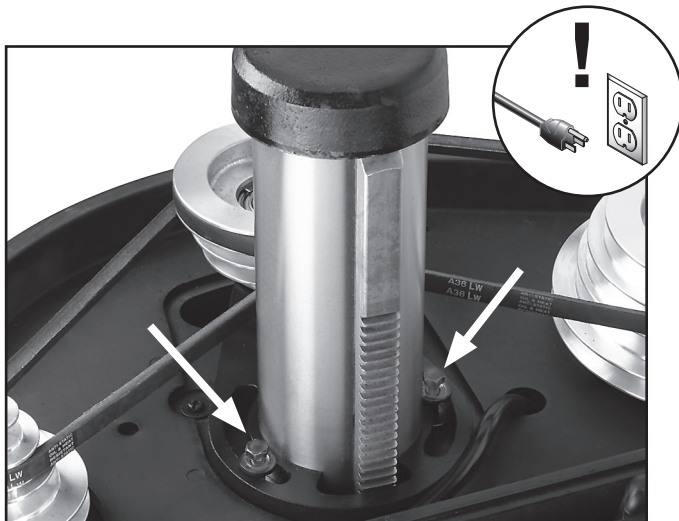

Figure 20. Idler bracket hex bolts.
4. Loosen, but do not remove, the two idler bracket hex bolts shown in **Figure 20**.